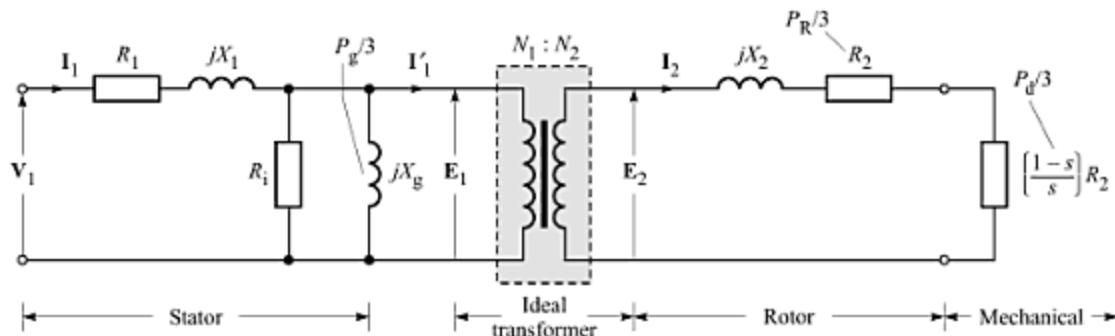
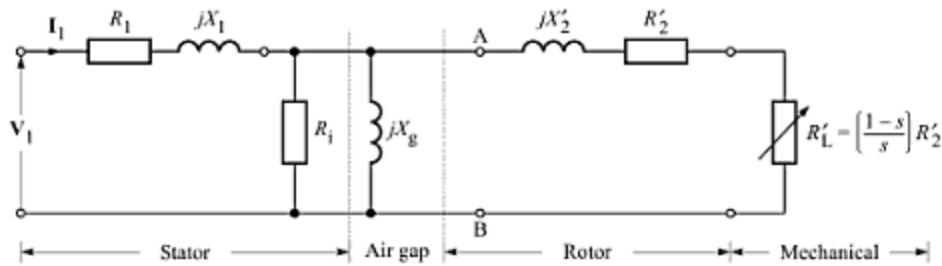

Fig. 15.7 Equivalent circuit accounting for developed mechanical power.
Fig. 15.8 Equivalent circuit with rotor impedance transformed to stator-side.
which accounts for the *rotor electrical loss*, and (2) $[(1-s)/s] \times R_2$ which accounts for the *developed mechanical power*. The result is shown in Fig. 15.7. The figure also shows resistor R_1 to account for the stator copper loss, R_i for iron loss, and X_1 as the leakage-flux reactance.
We can further simplify the circuit of Fig. 15.7 using the properties of an ideal transformer. If $K = (N_2/N_1)$ is the transformation ratio, the equivalent impedances as referred to the primary (stator) are given by Eq. 13.8 as $R'_2 = R_2/K^2$ and $X'_2 = X_2/K^2$. Thus, we get the equivalent circuit of Fig. 15.8.
As for a transformer, we could have further simplified the circuit of Fig. 15.8 by shifting the shunt branches R_i and X_g to the right of rotor impedance. However, this simplification cannot be done in an induction motor without incurring considerable error, as the no-load current is about 25 % to 40 % of the rated current.
We can make use of the equivalent circuit of Fig. 15.8 by finding Thevenin's equivalent of the circuit on the left of terminals A-B. In practice, the core losses in an induction motor are quite small compared to the other powers. We can therefore ignore the resistance R_i . Thevenin's voltage is given as